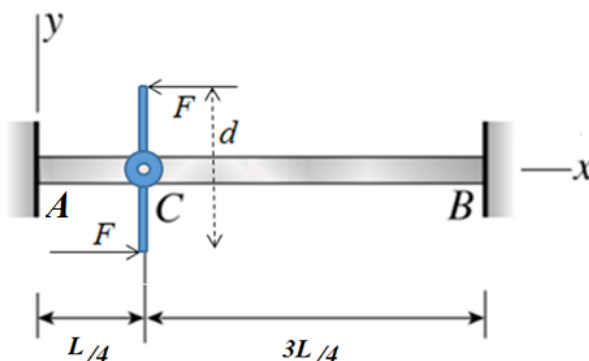

Figure Q1
1. A statically indeterminate beam, with both ends built in at the walls, is subjected to a point moment a quarter span from the left as shown in Figure Q1. The beam has a length L and a flexural rigidity EI .